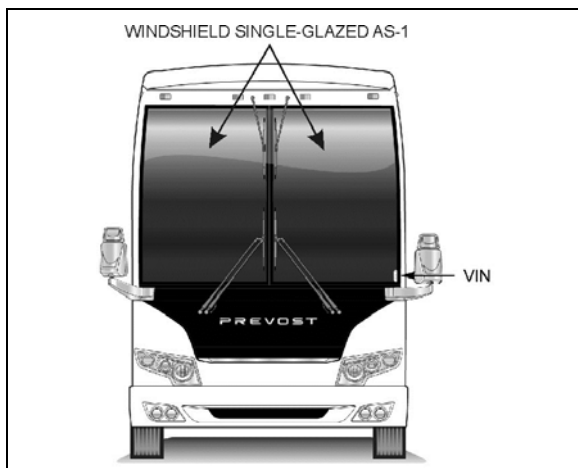

FIGURE 46: WINDSHIELD
6. Confirm that both latches are in the closed (latched) position. The upper edge of the latch opening must be aligned with upper edge of the sash opening (Figure 46)
Unless otherwise noted, body panels and doors should be aligned and centered with surrounding panels. In general, a gap of $\frac{1}{4}$ inch (6 mm) is desirable between panels. Refer to figure 46 for specified gaps.